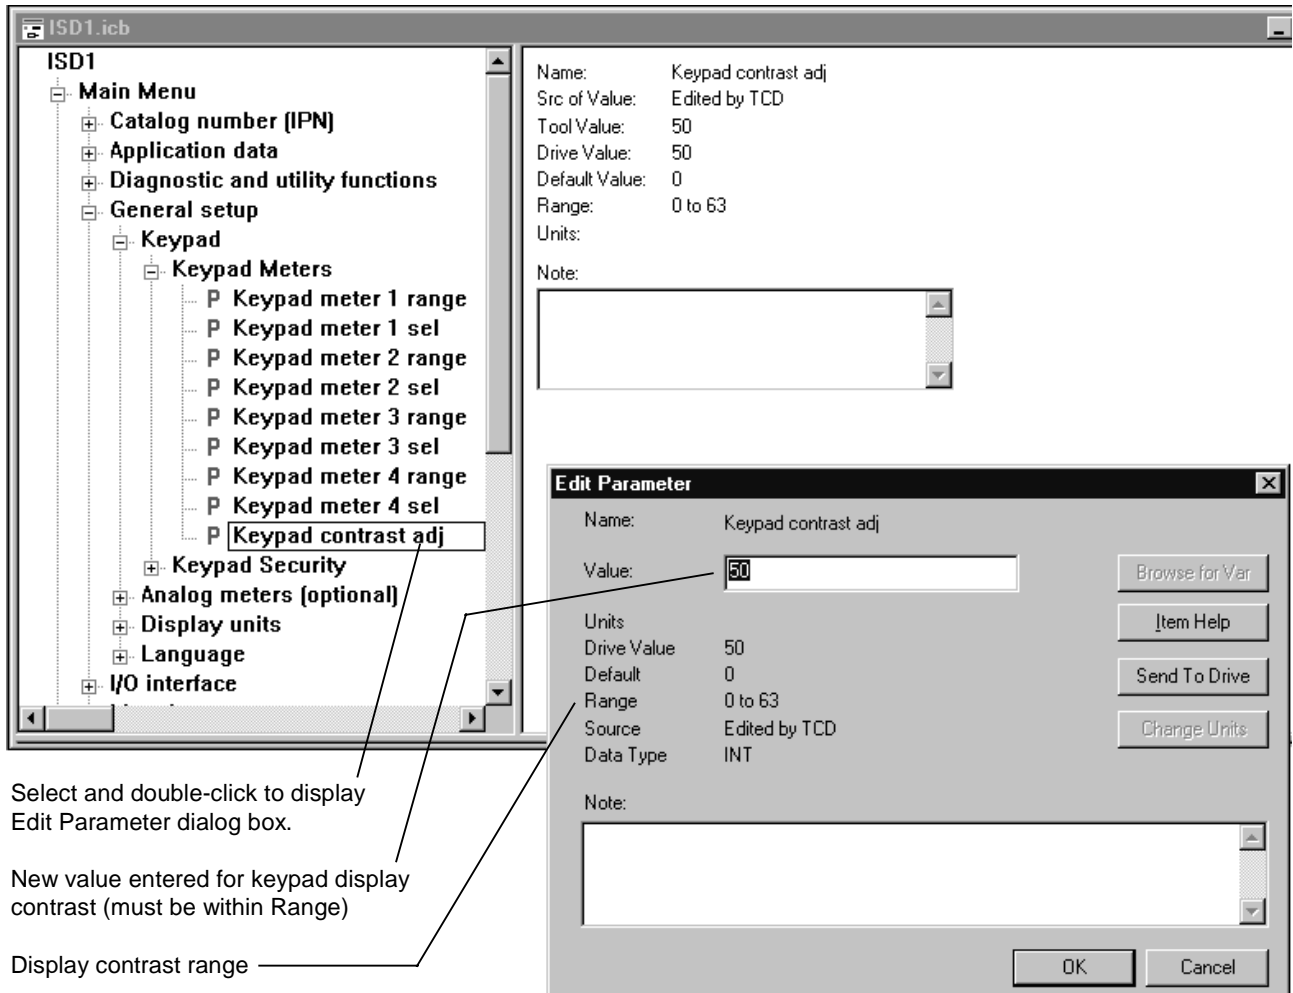

Figure 6-5. Toolbox Work Area and Dialog Box for Keypad Display Adjustment
2. In the toolbox work area (see Figure 6-5), expand the items displayed in the Outline View by clicking on the plus sign next to **Main Menu, General Setup, Keypad, and Keypad Meters**.